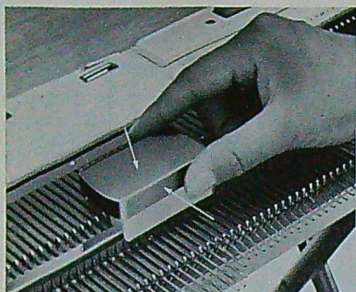

Fig. 16
(1) Put the picker with the foot towards you on the front rail of the needle bed. (See Fig. 16)
(2) Raise up the needles to position "E".